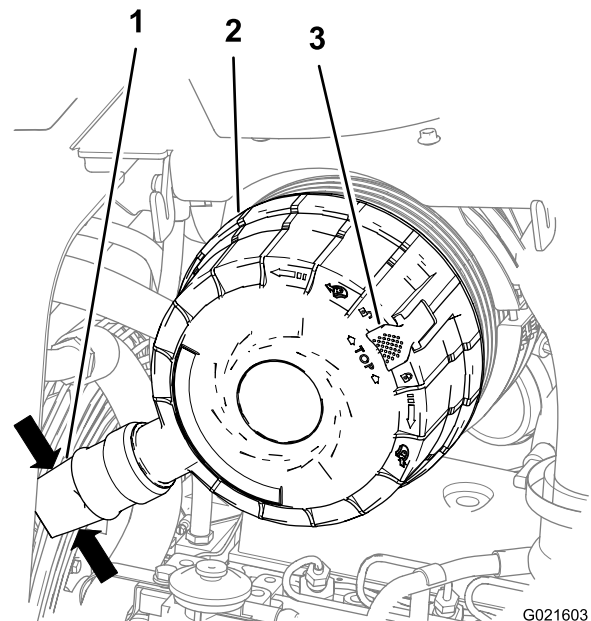

Figure 114
3. Squeeze the sides of the dust valve on the air-cleaner cover to release any collected water, dust, or dirt from the valve. (Figure 114).
5. Pull the latch for the air-cleaner cover outward (Figure 114).